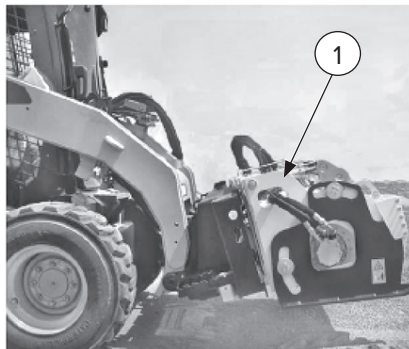

Figure 11
2. Move the equipment to the start of the working site, keeping the unit [Figure 11, Item 1] at the center of the mount to maintain balance.